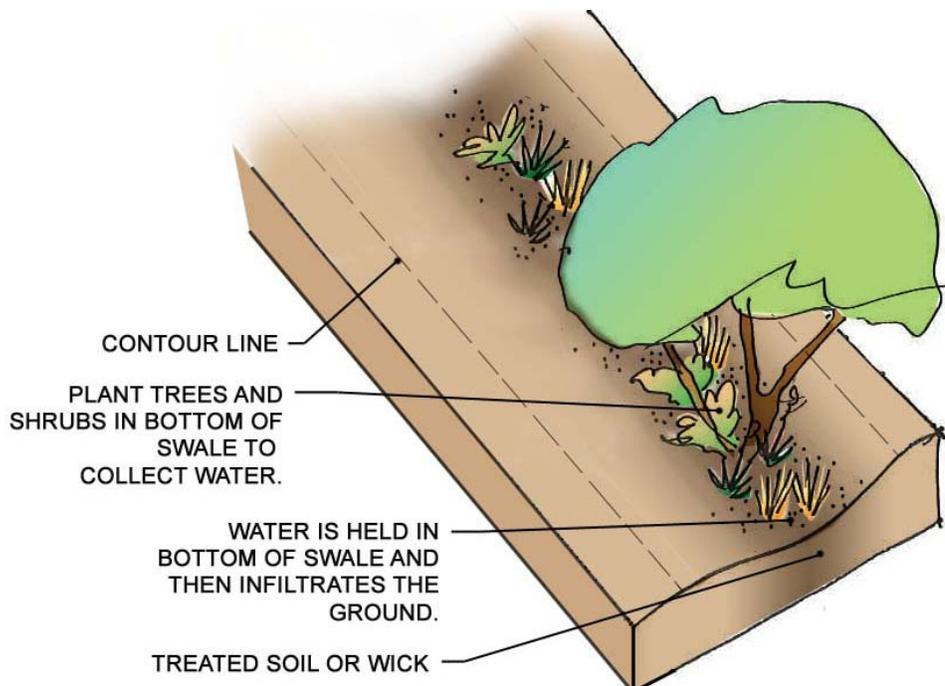

Figure 17. On-Contour Swale
- **On-Contour Swale** - On-contour swales are constructed parallel to the site elevation contours as depicted in Figure 17.